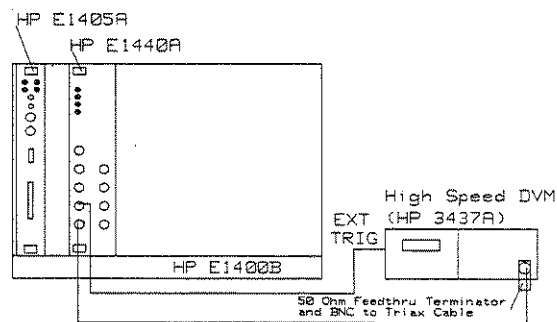

Figure C-7. Function Amplitude Accuracy Test Set-Up
- Function Test.** Set up the equipment as shown in Figure C-7.